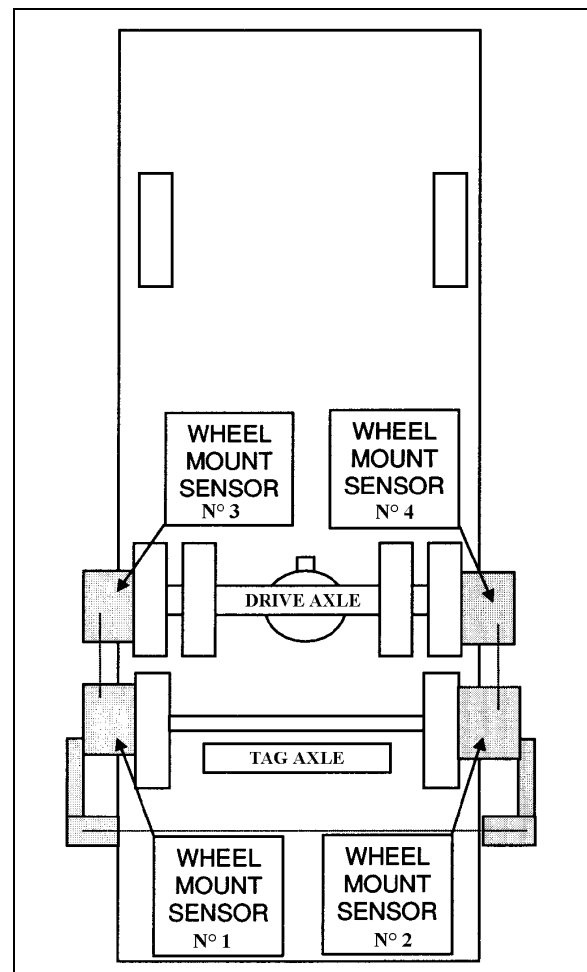

FIGURE 8: TAG AXLE ALIGNMENT 11026
- Remove and reinstall all wheel mount sensors on the drive and tag axes (Figure 8);
Reinstall wheel mount sensors as shown in figure 8.